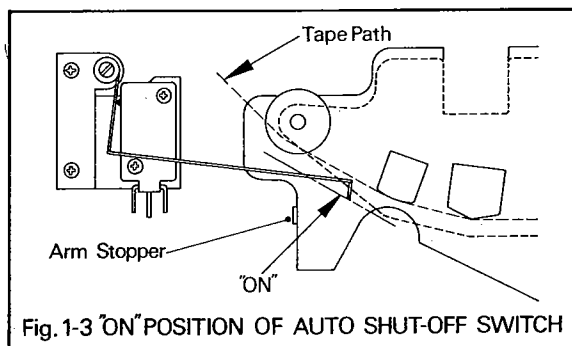

Fig. 1-3 "ON" POSITION OF AUTO SHUT-OFF SWITCH
5. Push the AUTO SHUT-OFF ARM upward again and check that the auto shut-off mechanism is activated when the TAPE CONTACT BAR is outside the TAPE PATH. (See Figure 1-3.) When you hear a click sound, the mechanism is activated.